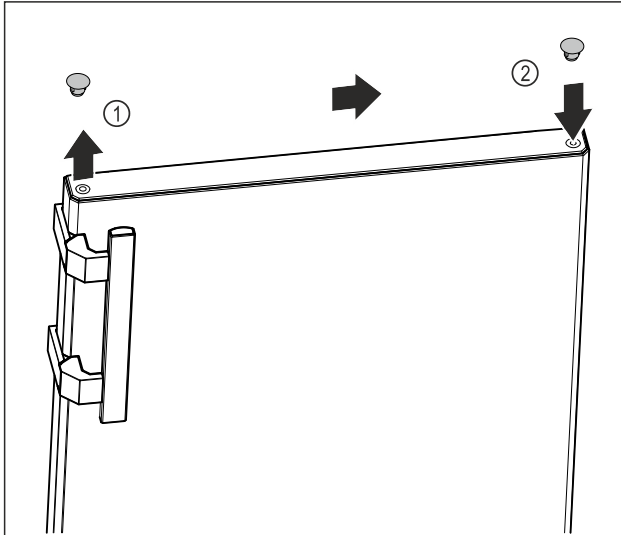

Fig. 15
- Carefully lift the cover plug on the top of the door Fig. 15 (1) with a slotted screwdriver.
- Insert the cover plug on the opposite side. Fig. 15 (2)